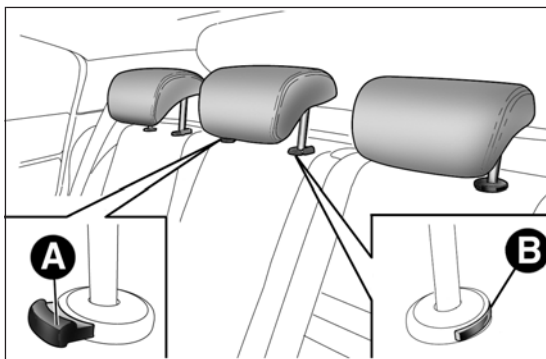

fig. 25
- press buttons A and B fig. 25, then remove the head restraints by pulling them upwards.